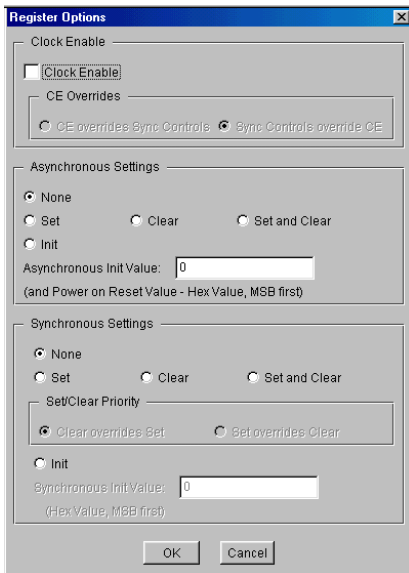

Figure 2: Binary Counter Register Options Parameterization Screen
- **Register Options:** Clicking on this button brings up the Register Options parameterization screen (see figure 2).
The Register Options parameterization screen for this module is shown in Figure 2. The parameters are as follows: